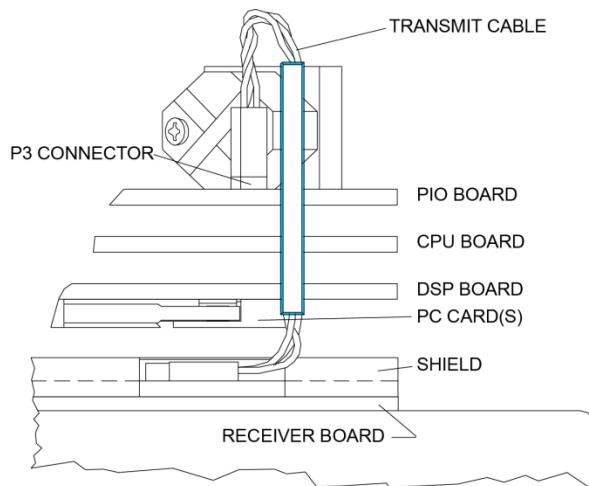

Figure 2. Transmit Cable
- Note the orientation of the transmit cable connector as it is plugged into the PIO board and to the Receiver board (see Figure 2).